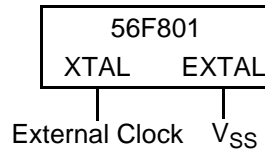

Figure 3-9 Connecting an External Clock Signal
The recommended method of connecting an external clock is given in Figure 3-9. The external clock source is connected to XTAL and the EXTAL pin is grounded.
1. See Figure 3-9 for details on using the recommended connection of an external clock driver.